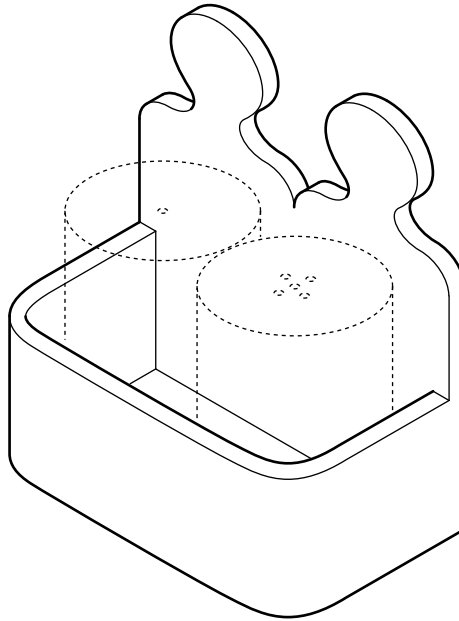

Fig. 2
- 3 Fig. 2 shows a holder for salt and pepper pots.
- (a) State a suitable material for the holder of the type shown in Fig. 2 and give **two** reasons for your choice. [3]